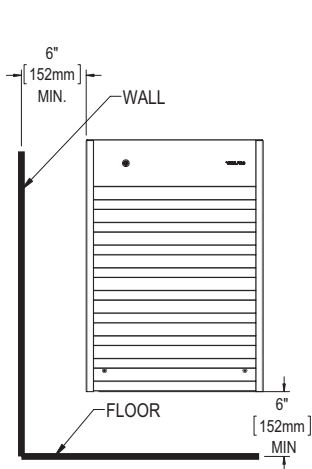

FIG. 1
1. Recessed and surface installations must meet the minimum distances for single and double units (see figures 1 and 2). Note: 4800 W single units should be installed with a minimum distance of 8 inches (203 mm) from the floor.